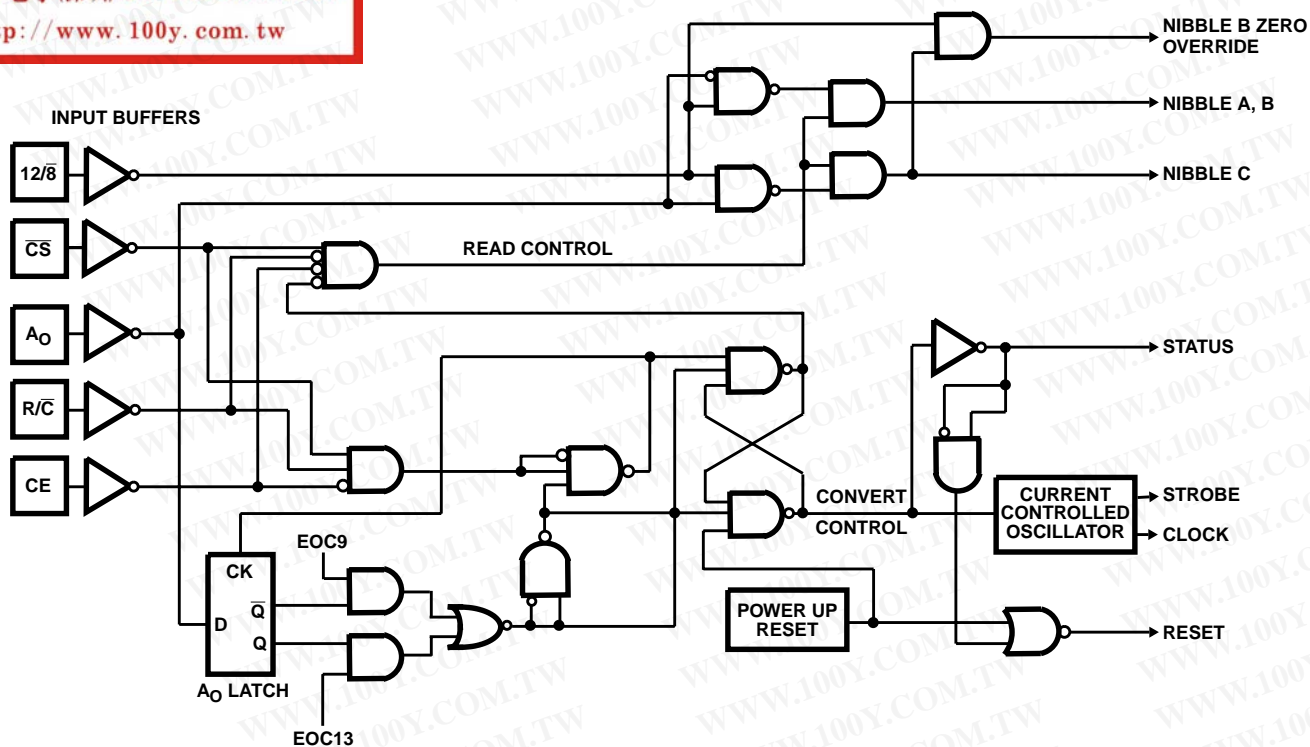

FIGURE 7. HI-774 CONTROL LOGIC
The HI-X74(A) includes logic for direct interface to most microprocessor systems. The processor may take full control of each conversion, or the converter may operate in the "stand-alone" mode, controlled only by the R/C input. Full control consists of selecting an 8-bit or 12-bit conversion cycle, initiating the conversion, and reading the output data when ready-choosing either 12 bits at once or 8 followed by 4, in a left-justified format. The five control inputs are all TTL/CMOS-compatible: (12/8, CS, AO, R/C and CE). Table 1 illustrates the use of these inputs in controlling the converter's operations. Also, a simplified schematic of the internal control logic is shown in Figure 7.